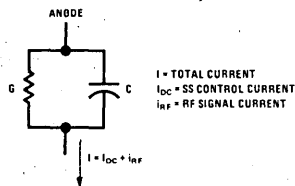

FIGURE 2. Circuit Model for PIN Switch
Equation (1) implies a circuit model shown in Figure 2. Under steady conditions $\frac{dQ}{dt} = 0$, hence: